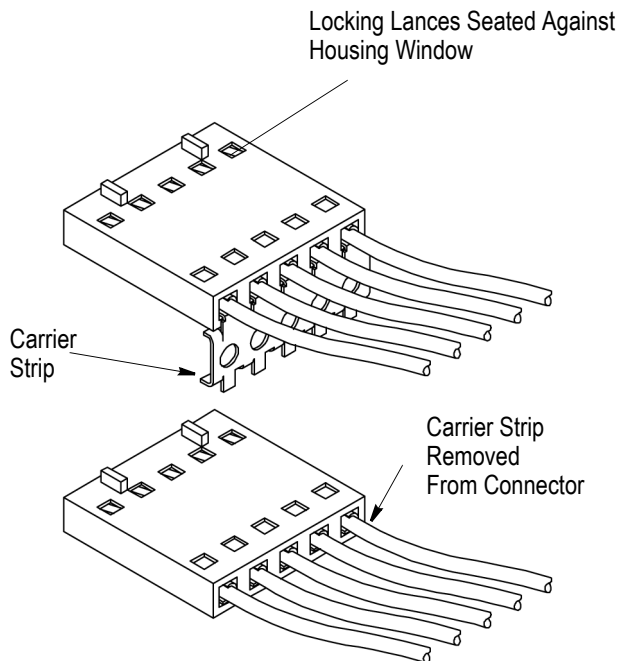

Figure 6
3. Inspect seated connector according to Figure 6.
*Contacts are properly seated when the locking lances are seated against the housing window. See Figure 6.*